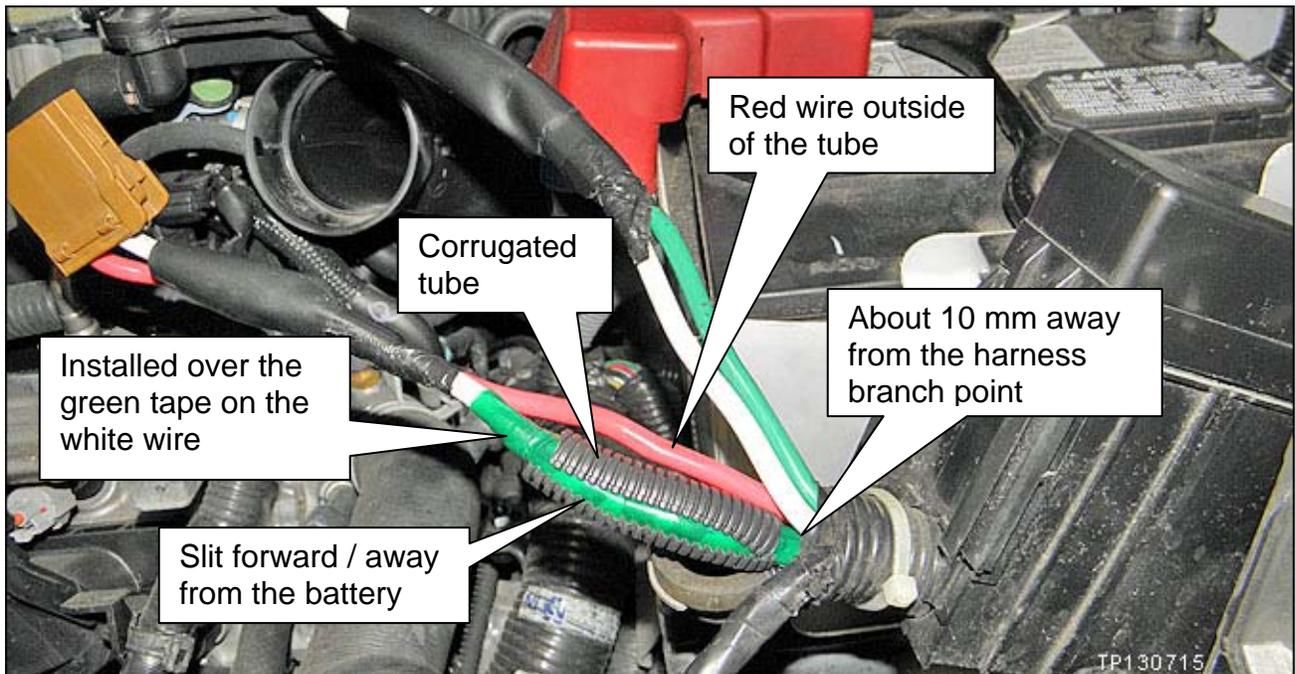

Figure 9
9. Install the corrugated tube as shown in Figure 9.